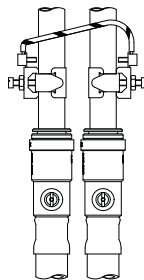

Fig. 11
- 4.15 **Adjacent pipes:** Adjacent suction and delivery pipes should be fitted with earthing clamps to BS 951 and connected with earthing wire size 4 mm² (Fig. 11).